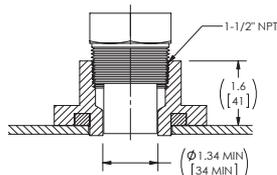

Fig. 2
Any orientation on a vertical run of pipe in either a wet or dry system is considered acceptable. Refer to installation instructions and Fig. 2 below for both the M7700 Inline Pipe and M7800 Mechanical Tee.
2. After tightening couplings to manufacturer's specifications apply appropriate sealant to the plug's threads and install into the pipe's port (see Fig. 2). Orient the monitor's plug so that the text is easy to read.
9. Apply an appropriate sealant to the plug's threads and install into the tee's port (see Fig. 2). Orient the monitor's plug so that the text is easy to read.
WARNING: AGF recommends using the CORRINSITE plug with our Model 7700 Inline Pipe or Model 7800 Mechanical Tee which have been manufactured and tested to meet our specifications. Variations in some manufacturer's fittings, weld-o-lets, and mechanical tees may result in interference, depth penetration problems, or inability for the CORRINSITE plug to seal. If using an alternative installation than recommended, please refer to Fig. 2.